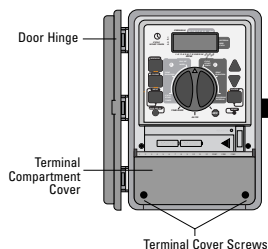
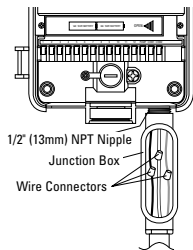

FIGURE 18: Outdoor Timer, Showing Terminal Cover
FIGURE 21: AC Wiring Using Junction Box
- Take off the terminal compartment cover by unscrewing the two screws and pulling the plastic cover forward. [See figure 18], this reveals the AC Power Cover [Figure 21].
- Take off the terminal compartment cover of the controller by unscrewing the two screws and pulling the plastic cover forward. [Figure 18].
The controller has a nipple-mounted external power connection [Figure 21]. Use this 1/2 inch (13mm) NPT nipple to connect the controller to a standard electrical junction box that should be UL Listed (or equivalent) or comply with IEC or EN standards (or equivalent).
- Connect the junction box (not included) to the NPT nipple [Figure 21].